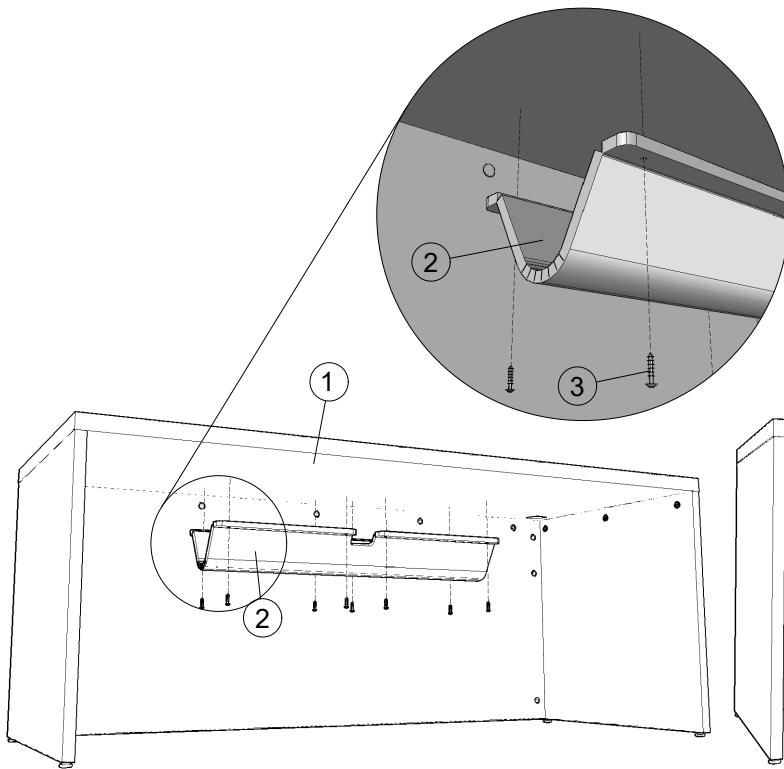

Figure 1
1. Attach the Wire Manager to the desired location under the table or Worksurface using eight #8 x 1-1/8" Round Head Screws and a drill, as illustrated in Figure 1.